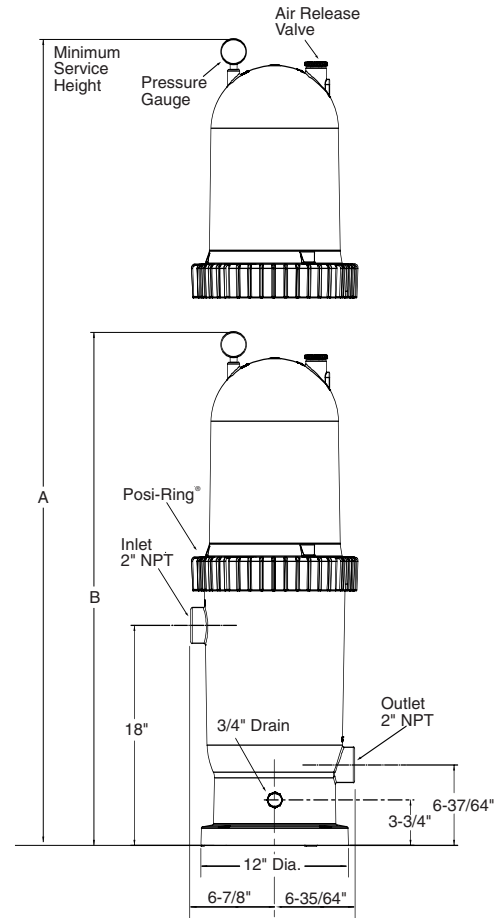

FIGURE 1 – Dimensions in inches (mm)
- Provide space and lighting for easy access for routine maintenance. (See Figure 1 for space requirements.)